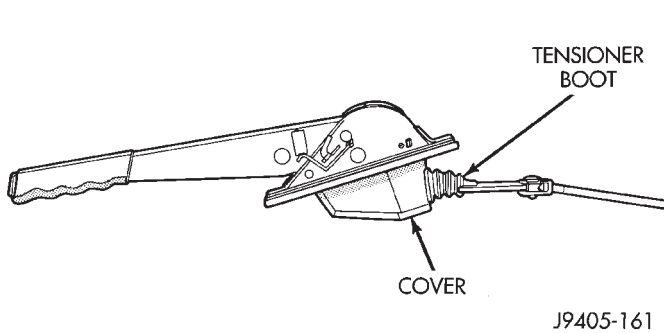

Fig. 5 Tensioner Boot Seated In Cover
- (2) Verify that tensioner boot is properly seated in cover (Fig. 5).
- (3) Position lever assembly on floorpan and install lever attaching screws, if equipped.
- (2) Verify that tensioner boot is fully seated in cover (Fig. 5).
- (3) Position assembled lever and tensioner in floorpan.
- (4) Connect brake warning light wires to switch on lever.
- (5) Install console base and cover.
- (6) Connect power mirror switch wire to switch and install switch in console cover.
- (7) On automatic transmission models, install shift bezel and shift handle.
- (8) On manual transmission models, install boot, bezel and shift knob.
- (9) Raise vehicle.
- (10) Insert tensioner rod in equalizer and install adjusting nut on tensioner rod.
- (11) Install nuts attaching lever support plate to floorpan and lever.
- (12) Adjust parking brakes. Refer to procedure in this section.
- (3) Position lever on floorpan and insert lever screws through floorpan. Be sure lever cover and seal are in place between lever and floorpan.
- (13) Align cover and seal on lever flange.
- (14) Verify that tensioner boot is seated in cover (Fig. 5).
- (15) Install assembled lever and tensioner in floorpan.
- (16) Install necessary console components.
- (17) Adjust parking brakes as described in this section.